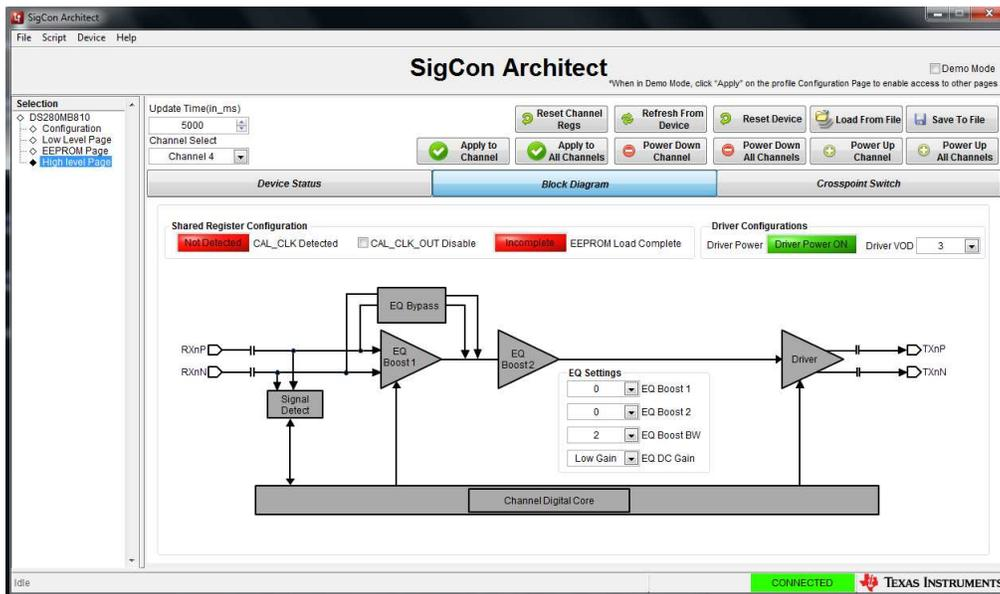

Figure 8. SigCon Architect High Level Page: Block Diagram.
10. In order to program high level settings, navigate to the “Block Diagram” tab on the “High Level Page” as shown below in Figure 8. The EQ Settings and Output Configurations are programmable from this page. In order to navigate to specific channels use the “Channel Select” drop down menu. Click “Refresh from Device” to apply the device’s current settings to the control setting boxes. Click “Apply to Channel” to program the device from the “Block Diagram” page. After programming the device, the changed settings can be verified on the “Device Status” page, Figure 7. The CAL\_CLK Detected indicator provides a visual representation of whether a calibration clock is active.
Eye diagram does not pass mask.	<ul style="list-style-type: none"> <li>• Vary EQ Boost Settings as seen in <a href="#">Figure 8</a>.</li> </ul>